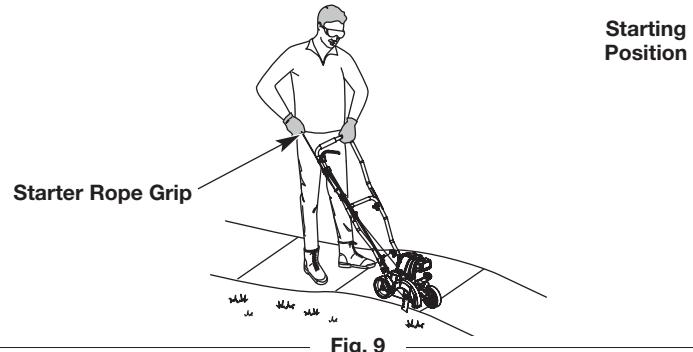

Fig. 9
**WARNING:** Avoid accidentally starting the unit. To avoid serious injury, the operator and the unit must be in a stable position when pulling the starter rope (Fig. 9).
**WARNING:** The blade may rotate during the starting process. Always stand in the starting position. Use one foot to hold the wheels in place. Tilt the unit back slightly to bring the blade off the ground (Fig. 9).
2. Stand in the starting position (Fig. 9). Hold the handlebar firmly with one hand. Hold the starter rope with the other hand. Use one foot to hold the wheels in place.
5. Continue to hold the throttle control. Pull the starter rope with a controlled and steady motion until the unit starts (Fig. 9).